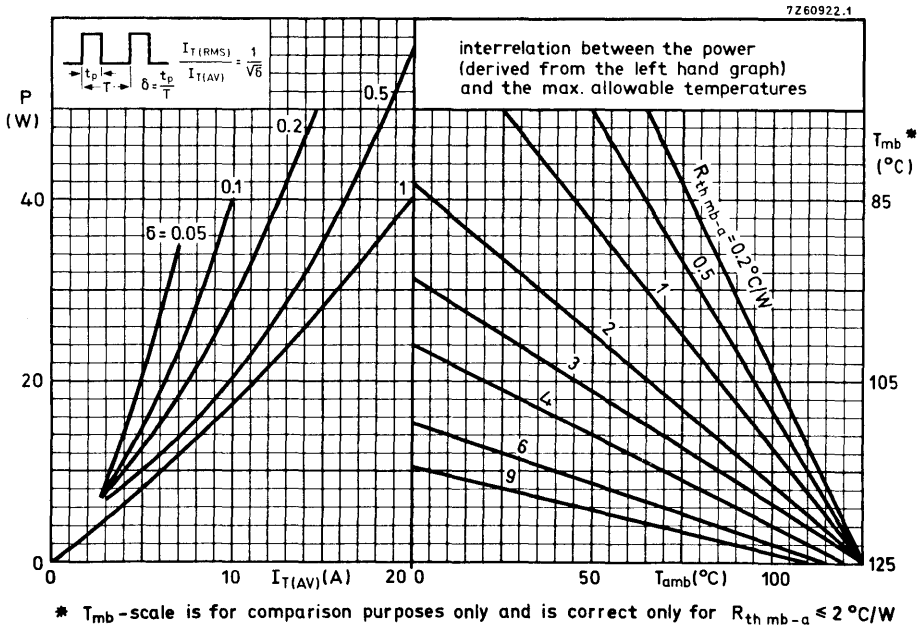
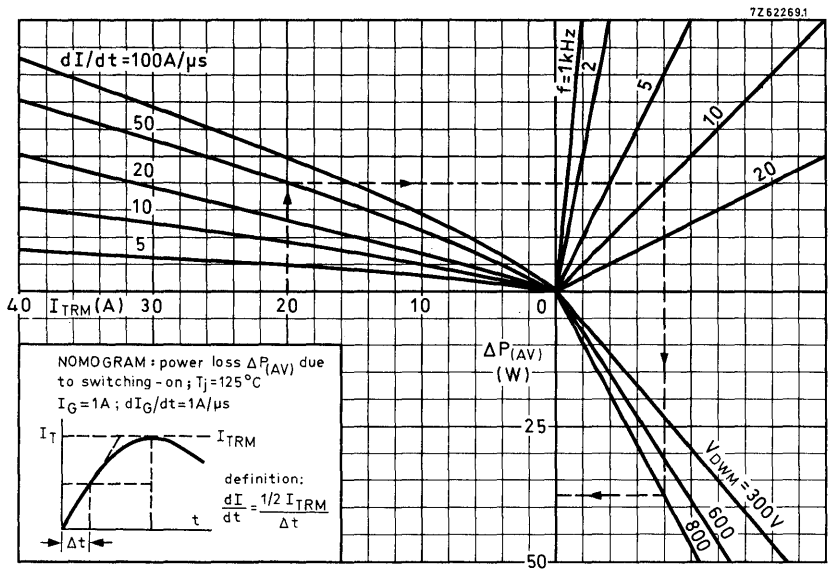

Fig. 5.
Fig. 13.
For smaller heatsinks  $T_{j max}$  should be derated. For square-wave see Fig. 5.
- a. The curves in Figs 13 and 14 show the additional average power losses due to turning on and turning off the thyristor in square pulse operation. This power should be added to that derived from the curves in Fig. 5.